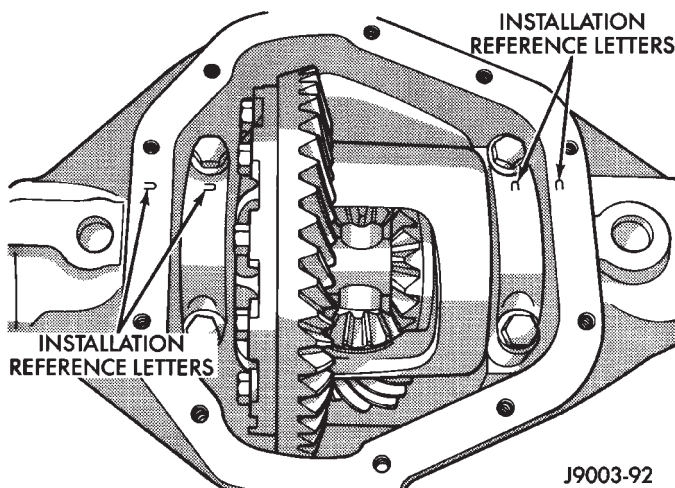
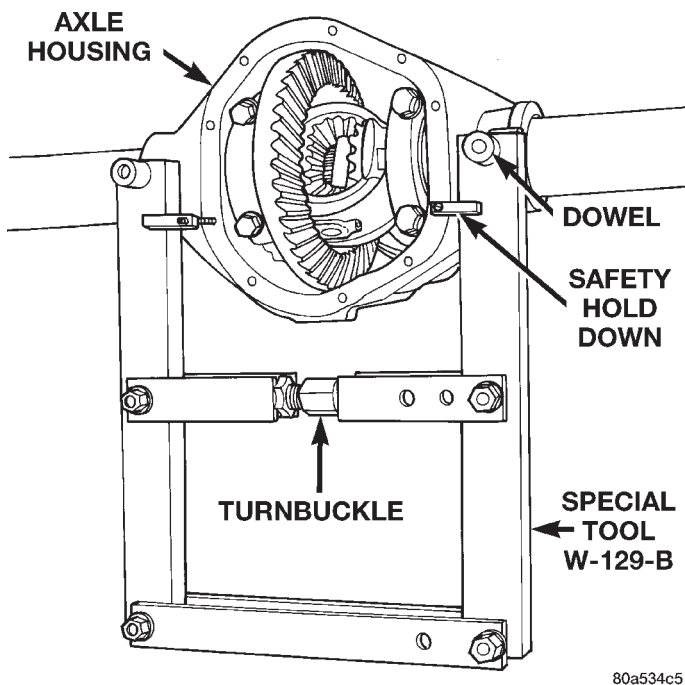

Fig. 24 Bearing Cap Identification
Fig. 25 Install Axle Housing Spreader
- (1) Raise and support vehicle.
- (2) Remove the lubricant fill hole plug from the differential housing cover.
- (3) Remove the differential housing cover and allow fluid to drain.
- (4) Remove hub bearings and axle shafts.
- (5) Note the installation reference letters stamped on the bearing caps and housing machined sealing surface (Fig. 24).
- (6) Loosen the differential bearing cap bolts.
- (7) Position Spreader W-129-B, utilizing some items from Adapter Kit 6987, with the tool dowel pins seated in the locating holes (Fig. 25). Install the holddown clamps and tighten the tool turnbuckle finger-tight.